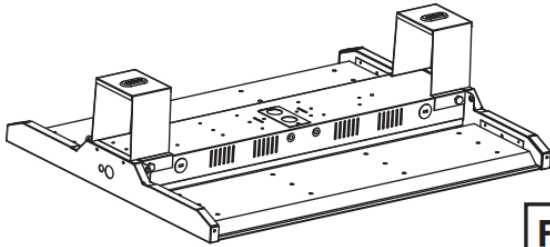

Fig. C-1
1. Align the surface mount brackets with the fixture back plate as show in the Figure C-1
(Figure C-1)